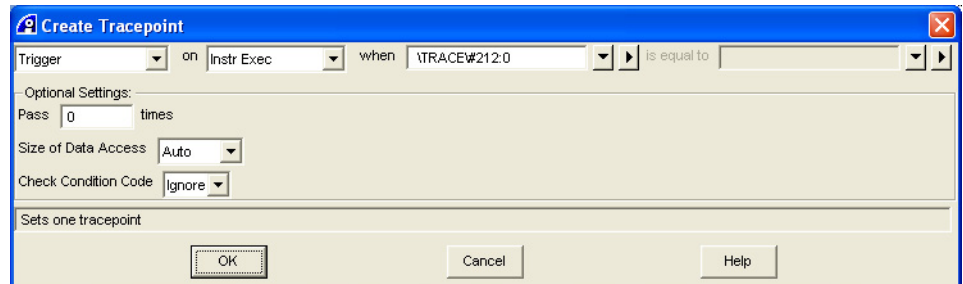

Figure 7-3 Create Tracepoint dialog box
2. Select **Create Tracepoint...** from the context menu to open the Create Tracepoint dialog box. Figure 7-3 shows an example: